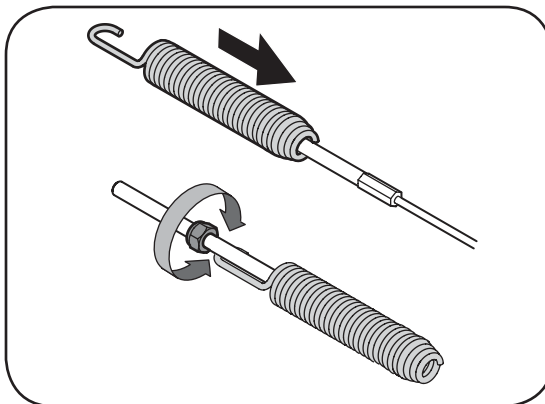

Figure 3-13
- Push the cable coupler through the end of the spring to expose the lock nut. See Figure 3-13.